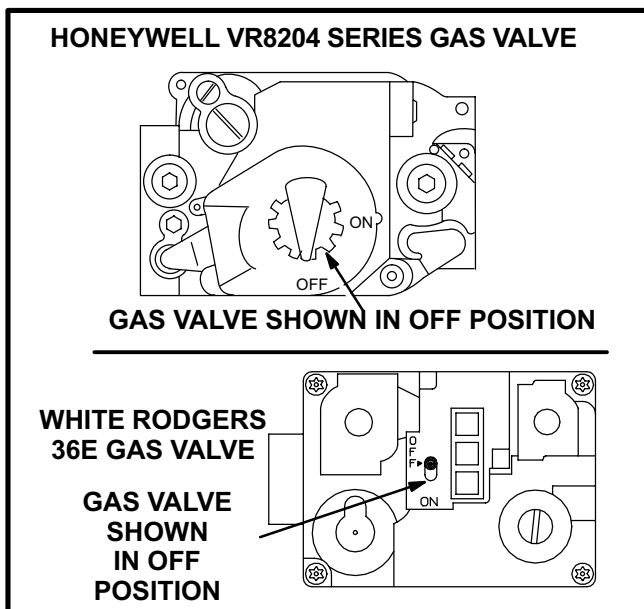

FIGURE 3
Gas Valve Operation (Figure 3)
- 6- On Honeywell VR8204 gas valves, turn knob on gas valve clockwise to **OFF**. For White Rodgers 36E gas valves, move switch to **OFF**. Do not force the switch. See figure 3.